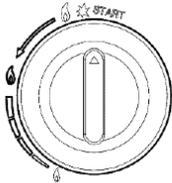
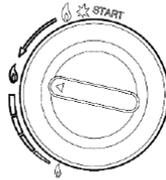
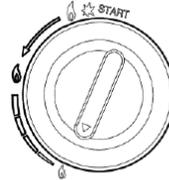

Fig 1
Fig 2
Fig 3
- The heater has three settings. Lighting and Maximum (Fig. 1), Medium (Fig. 2) and Minimum (Fig. 3)
- Position the switch into the position shown in Fig. 1. (maximum temperature and ignite) Depress the switch to rotate to the required setting.
- To change from “High” to “Medium” depress the setting control switch and turn it to Fig. 2.
- To change from “Medium” to “Low” depress the setting control switch and turn it to Fig. 3.